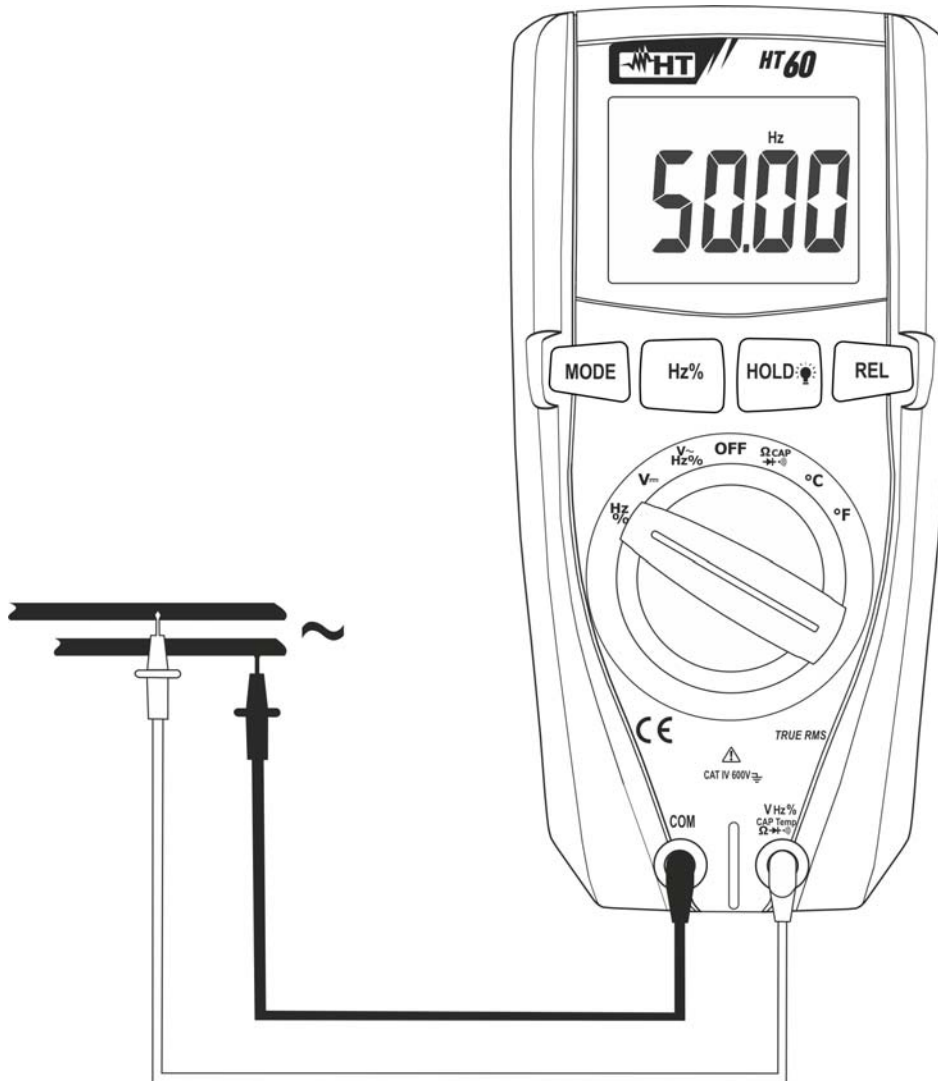

Fig. 6: Use of the instrument for frequency measurement and duty cycle test
3. Position the test leads in the desired spots of the circuit to be measured (see Fig. 6). The display shows the value of frequency.